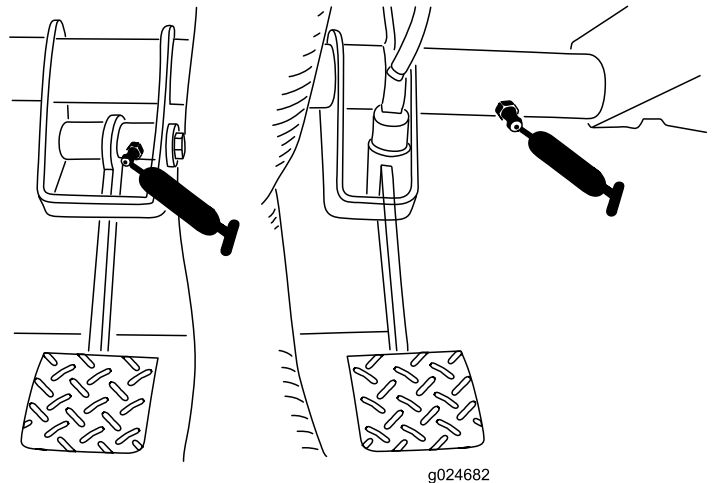

Figure 42
- Clutch (1) and brake (1) as shown in Figure 42